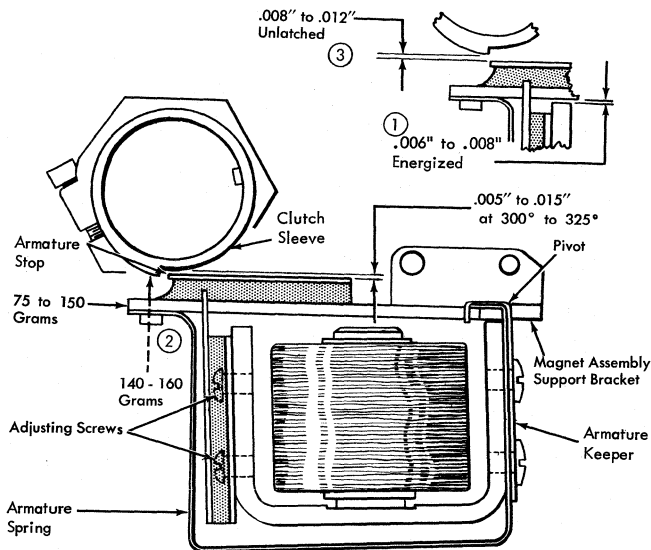

Figure 37. Punch and Verify Clutch Magnet
ADJUSTMENT (FIGURE 37)
2. Form armature spring to exert tension in the direction of the arrows in Figure 37. Vertically, the tension should be 140 to 160 grams; horizontally, the tension should be 75 to 150 grams (preferably 140 to 150 grams).
3. Attract armature and pivot magnet assembly about its support bracket to obtain .008-inch to .012-inch unlatching clearance to the step on the sleeve. At this point, it is important to check for .005-inch to .015-inch clearance between armature and sleeve (Figure 37). This clearance allows for any roughness on the sleeve that occasionally may strike the armature and cause the clutch to fail to latch up.
Armature Clearance. Check for armature-to-sleeve clearance of .005-inch to .015-inch (Figure 37). Any roughness on the sleeve may strike armature and cause clutch to fail to latch occasionally.